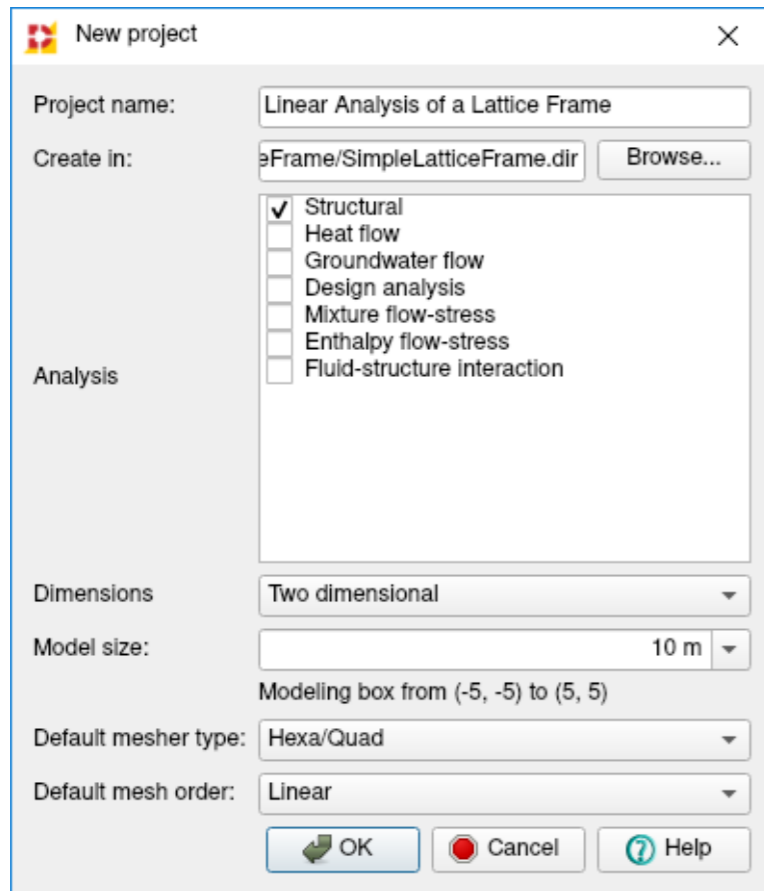

Figure 3: New project dialog
**Main menu** → File → New  [Fig. 3]